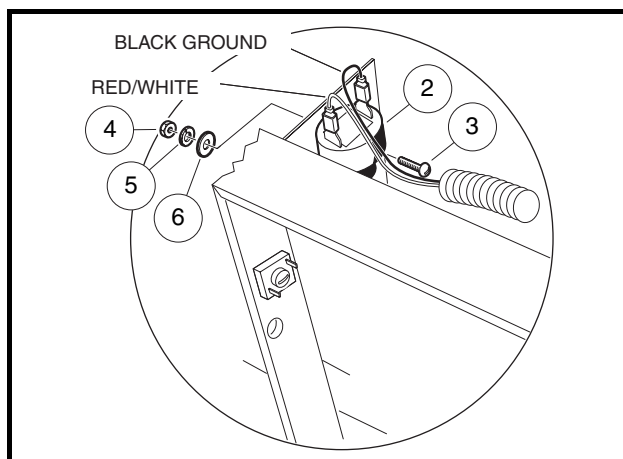

Figure 13-21 Front Reverse Warning Buzzer
4. Disconnect the wires from the reverse warning buzzer (2) (**Figure 13-21, Page 13-19**).
5. Remove the screw (3), nut (4), lockwasher (5) and flat washer (6) securing the buzzer to the vertical frame support.
1. Install the screw (3) through the buzzer (2) bracket tab and frame, secure with hardware, and tighten to 14 in-lb (1.6 N·m) (**Figure 13-21, Page 13-19**). See following **NOTE**.